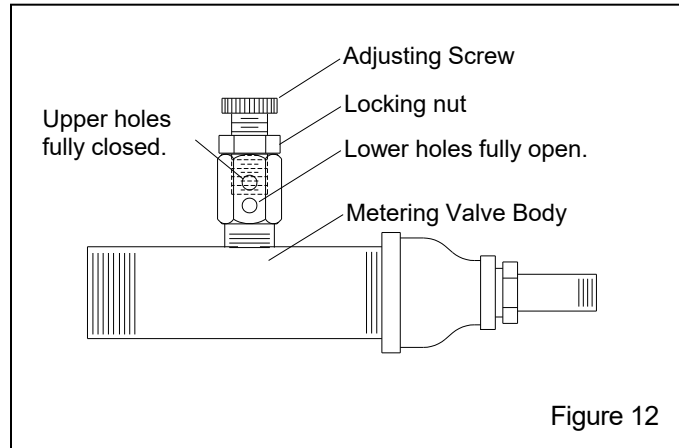

Figure 12
5.3 Media/Air Mixture – Figure 12
5.3.2 If media does not flow smoothly, loosen the locking nut, and adjust the metering screw until the upper holes in the metering stem are closed off and the lower holes are fully open, as shown in Figure 12. This adjustment is a starting point.